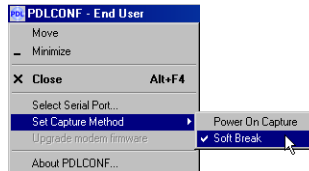

Figure 2-28. Set Capture Method->Soft Break
- From the same pop-up menu, click **Set Capture Method->Soft Break** (Figure 2-28).